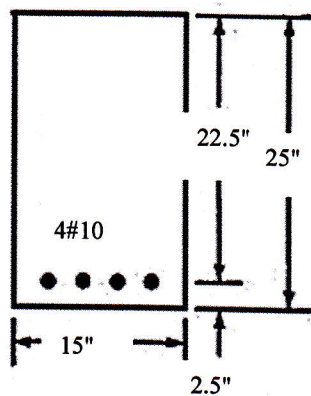

Figure 4
- 5.(a) Design the web reinforcement for the simply supported beam section shown in Figure 4, for which the unfactored working loads are  $W_D = 4$  k/ft and  $W_L = 6$  k/ft. Given,  $f'_c = 4$  ksi,  $f_y = 60$  ksi. Clear span is 14 ft. (8)